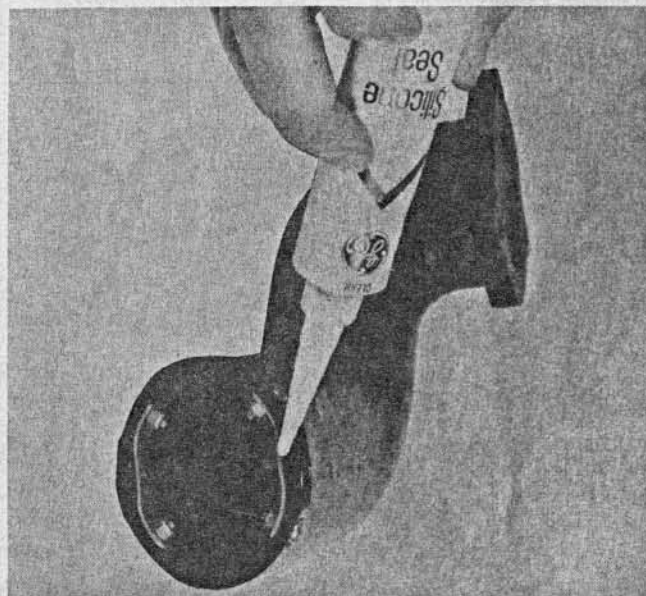

Figure 1. Sealant Application
4. Fill entire area between support brackets and tube with Sealant (C-92-52238-1). Allow sealant to cure for 24 hours. (Figure 1)